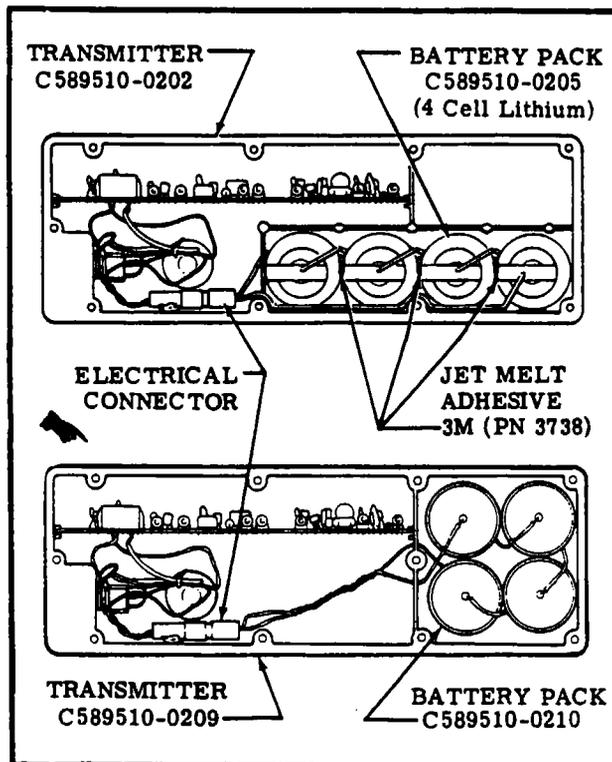

Figure 16-13. Lithium 4 Cell Battery Pack Installations
16-82. REMOVAL AND INSTALLATION OF LITHIUM FOUR (4) CELL BATTERY-PACK. (Refer to figure 16-13.)
- d. Place new battery-pack in the transmitter with four batteries as shown in figure 16-13.
- e. Connect the electrical connector as shown in figure 16-13.